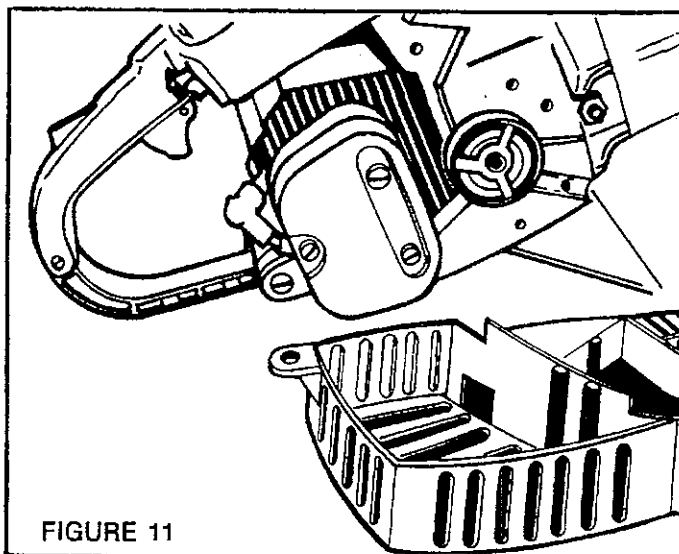

FIGURE 11
6. Reinstall the muffler. If the gasket is damaged, install a new one. **NEVER OPERATE THE ENGINE WITH ANY OF THE SHROUDING REMOVED.** Injury to you or others could result (Fig. 11).